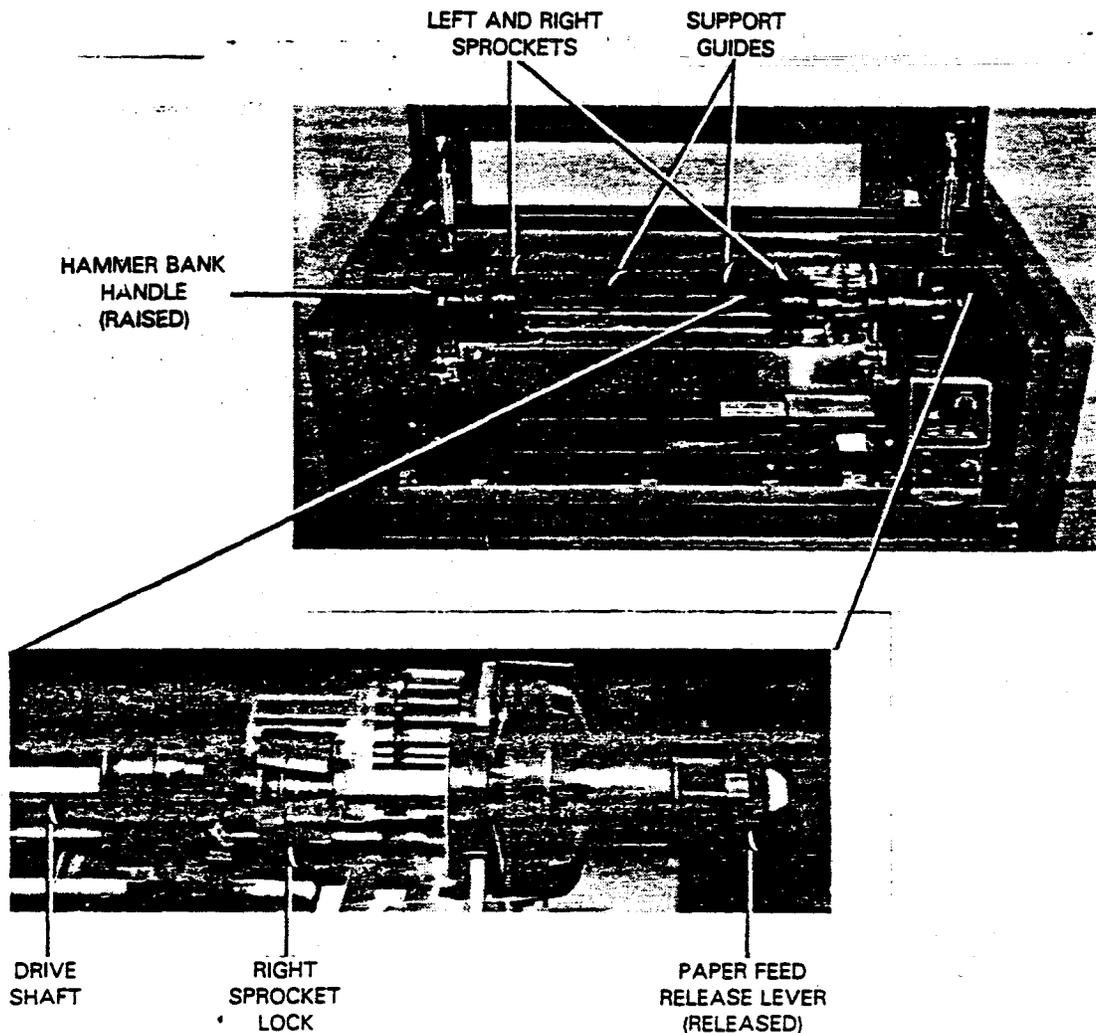

Figure 4-3. Preparing the Printer to Accept Forms
6. Flip open the paper feed release lever (Figure 4-3) to expose the red side of the lever for the adjustment position. On some printers, only the numeral 0 appears in red when the paper feed release lever is flipped open.